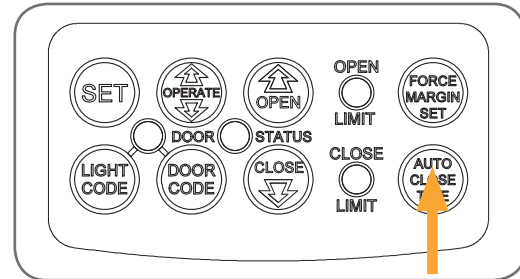

fig 29
- Hold down the AUTO CLOSE TIME button (Fig. 29).